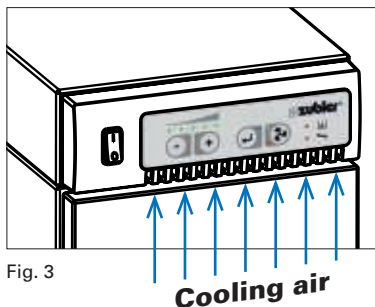

Fig. 3
- To connect the diffusor to the DN75 hose or pipe you will need the optional diffusor-holder O.No. 556/0057 (Fig.3)